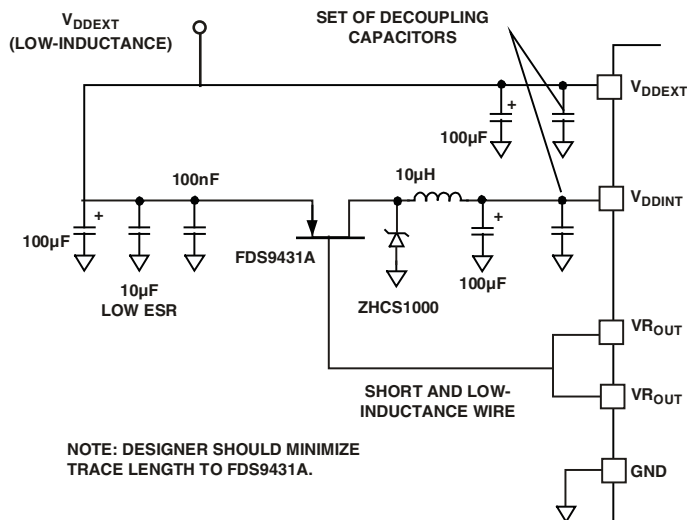

Figure 7. Voltage Regulator Circuit
**Figure 7** shows the typical external components required to complete the power management system. The regulator controls the internal logic voltage levels and is programmable with the voltage regulator control register (VR\_CTL) in increments of 50 mV. To reduce standby power consumption, the internal voltage regulator can be programmed to remove power to the processor core while keeping I/O power ( $V_{\text{DDEXT}}$ ) supplied. While in the hibernate state, I/O power is still being applied, eliminating the need for external buffers. The voltage regulator can be activated from this power-down state either through an RTC wakeup or by asserting RESET, both of which initiate a boot sequence. The regulator can also be disabled and bypassed at the user's discretion.